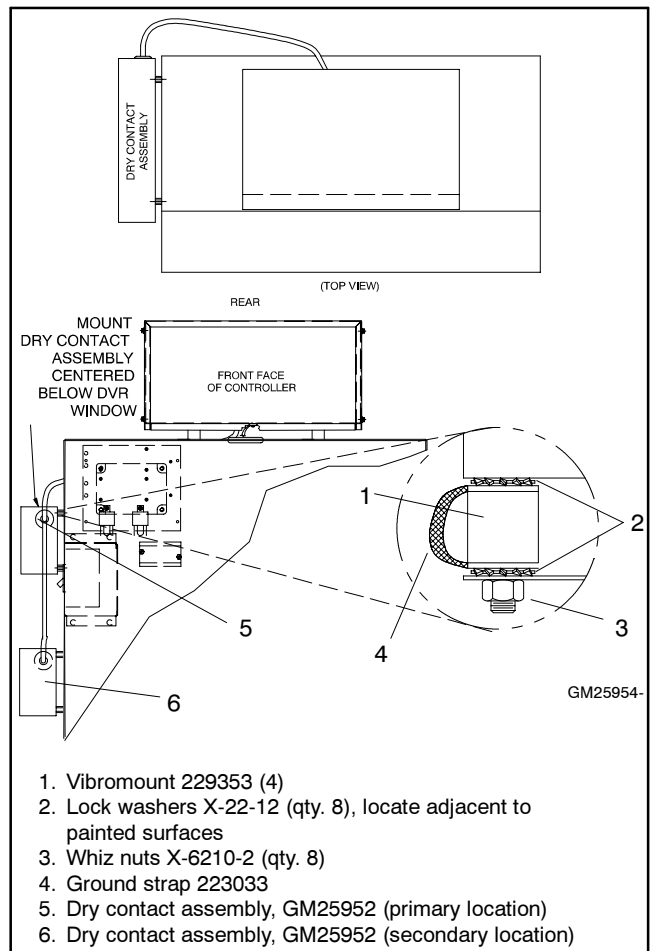

Figure 4 Junction Box Drilling Information (350/400 kW)
2.3.1 Drill four 7.1 mm (0.281 in.) diameter holes in the junction box as shown in Figure 4. Mount the 14-relay dry contact assembly in the primary location when no ten-relay dry contact assembly is installed. If a ten-relay dry contact assembly is or will be installed, mount the 14-relay dry contact assembly in the secondary location.
When attaching the dry contact assembly to the generator set junction box or skid, install the ground strap (223033) as shown in Figure 4.